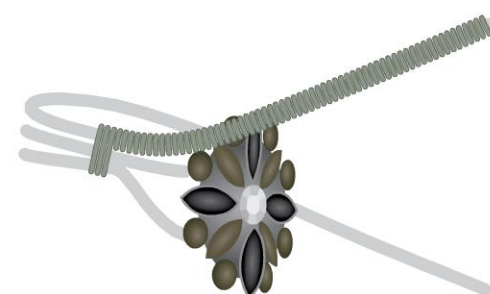

figure 4
- 6 Wrap the beginning tail of the coil around the ring shank (Figure 4).